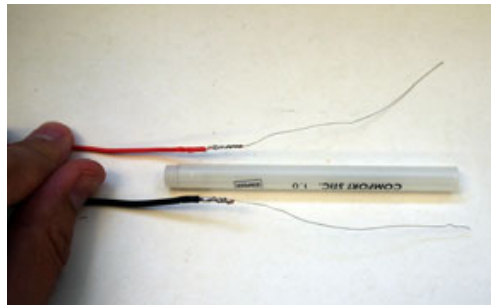

Figure 5. Placing the wires before taping.
- c. Tape the soldered wires onto the pen barrel, leaving a 1 mm section of the nichrome wires exposed near the tip, so that the probe can make physical contact with the solution in which it will be immersed (see Figures 5 and 6).